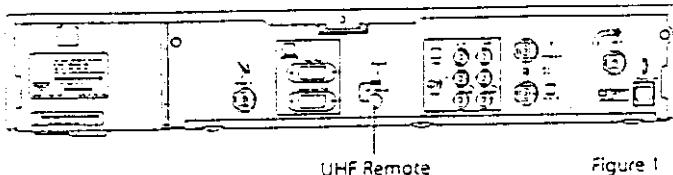

Figure 1
- 1** Plug the UHF antenna into the connector on the back of the receiver labeled "UHF Remote" as indicated in Figure 1. Unplug the receiver during this procedure (Figure 1).